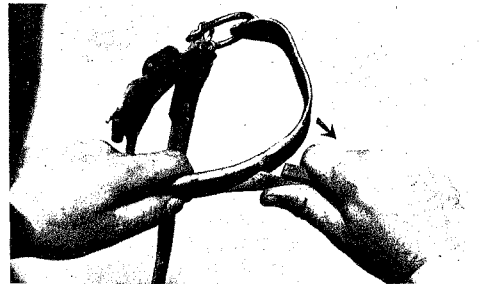

Fig. 20—Honing Inner Surface
7.04 Hone the inner surface of the gaff by starting the stroke near the leg iron and continue over rounded curve of tip as indicated in Fig. 20. Stop the honing stroke before the stone slides off the end of the gaff to prevent dulling the tip. About 20 to 25 strokes of the honing stone should be enough.